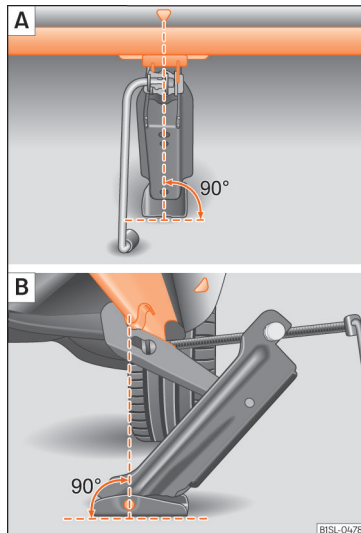

Fig. 57 Jack mounted on the left rear part of the vehicle
- Only fit the jack at the prescribed jacking points. The claw of the jack should grip the reinforcement nerve on the underbody »» Fig. 57.